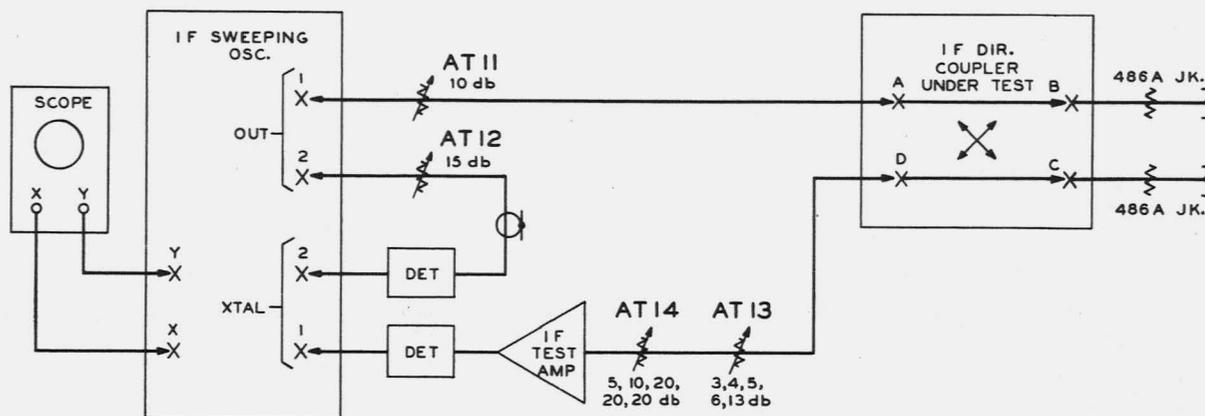

Fig. 1 - Setup for Testing IF Directional Coupler when it is Terminated with No. 486A Jacks.
- (1) Set up the test equipment as in Fig. 1, but patch directly from AT11 to AT13.
- (2) Adjust AT13, AT14, and the ADJ XTAL 1 control on the IF sweeper so that the two traces match at 70 MC.
(3) Set the vertical gain control of the oscilloscope so that changing an attenuator by 1 db displaces the traces by approximately 1/2 inch. Match the traces again at 70 MC.
(4) Note setting of AT13 and AT14.
(5) Connect the coupler to AT11 and AT13 as shown in Fig. 1. Connect a No. 486A jack at B, but not at C. Use no patch cord for this connection.
(6) Check the forward loss of the coupler by resetting AT13 and AT14 until the test trace (i.e., the signal from the test amplifier) matches or is less than 1 db above the reference trace. Note setting of AT13 and AT14.